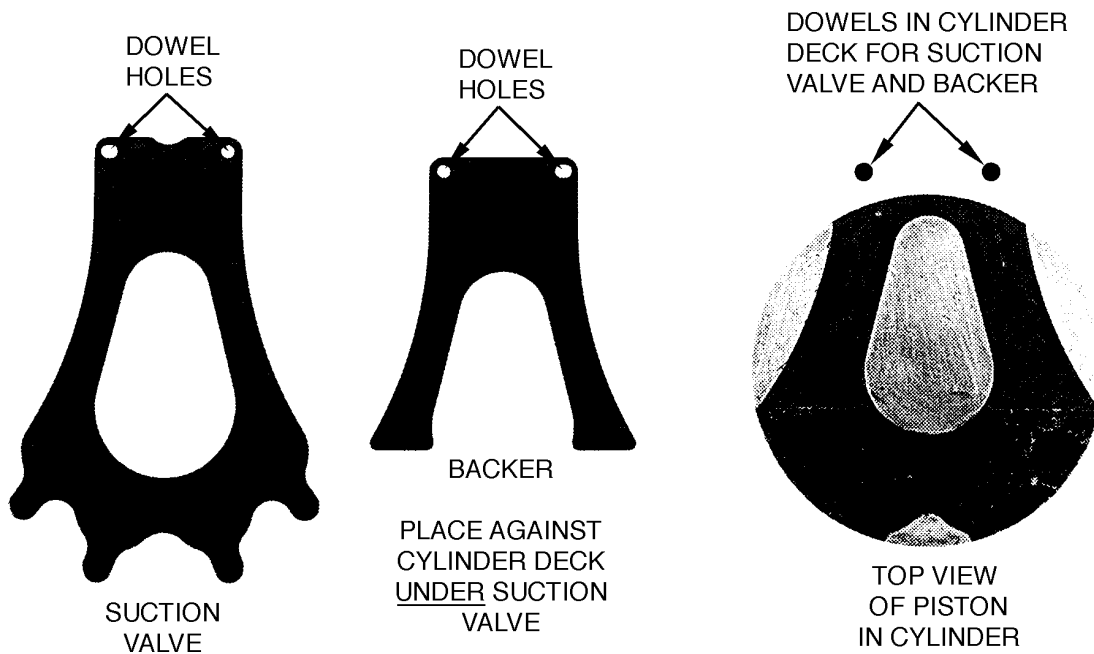

Fig. 5 — Piston, Suction Valve, and Backer Positions (06E)
- b. 06E compressors: if compressor uses a suction valve and a backer valve (looks like a 1/2 a suction valve), backer valve must be installed before installing full size suction valve (Fig. 5).